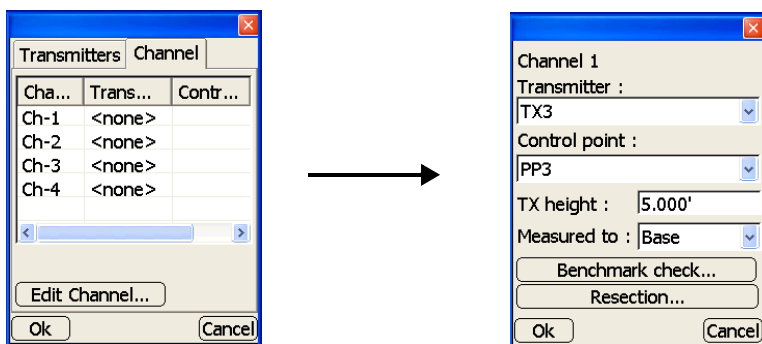

Figure 4-32. Edit Transmitter Information
2. On the *Channel* tab press **Edit Channel** (Figure 4-32).
3. Edit the following parameters as needed. Press **Ok** to save (Figure 4-32).